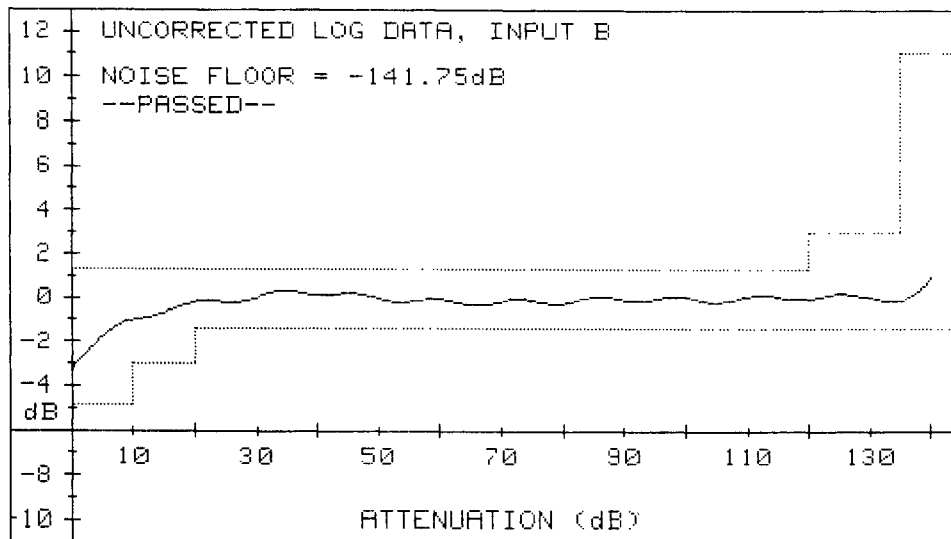

Figure 3-2. Typical Uncorrected Log Data Plot
5. When the calibrator passes the "Self Check", the controller will automatically initialize the system and generate the calibration data for the input(s) desired. The controller generates the data by attenuating the 27.8 kHz signal from 0 dB to 140 dB in 0.5 dB steps. At each level of attenuation, the controller takes readings from the HP 8757A. These readings are used to create a table which characterizes the HP 8757A input being used. The readings are also plotted as normalized data. The normalized data is displayed on the CRT as a graph of "UNCORRECTED LOG DATA" and should be similar to Figure 3-2. Refer to Figure 1-2 to relate attenuation (dB) to power (dBm).